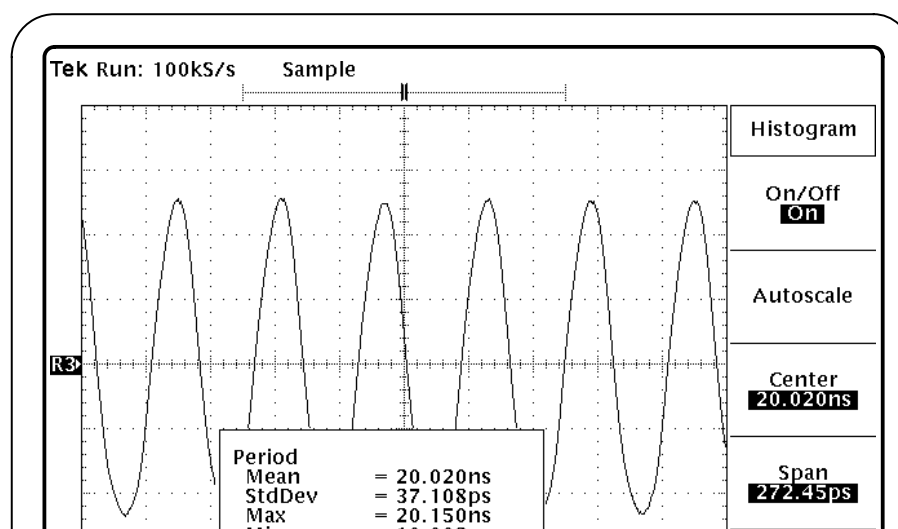

Figure 8: Histogram format menu
4. Press Histogram (main) → On/Off (side) to select On. Ref2 appears under Histogram to indicate that the results will be stored in Ref2. See Figure 8.